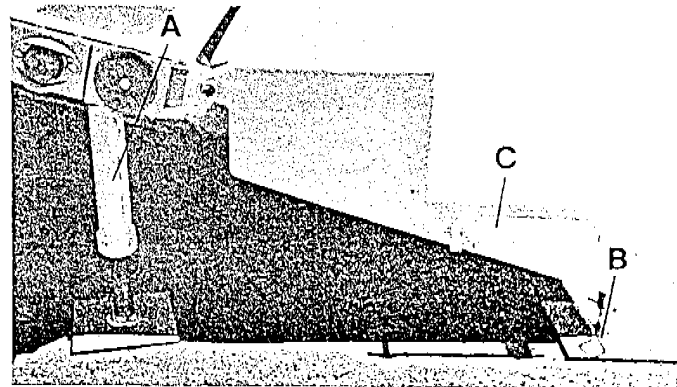

Fig. 22
- (2) Insert the support legs in the sockets under the gooseneck ramp (a). Secure in place by tightening two set screws on both legs. (Refer to Fig. 22)
- b. Install the jack stands in the sockets under the lower step (b). Run a snap key in a hole in each jack stand leg. (Fig. 22)
- c. Unhook the retaining hooks from the pins on the gooseneck ramp handrails. Lower the steps to the ground. Rest the retaining hooks on the pins at the side of the lower step (c). (Refer to Fig. 22)